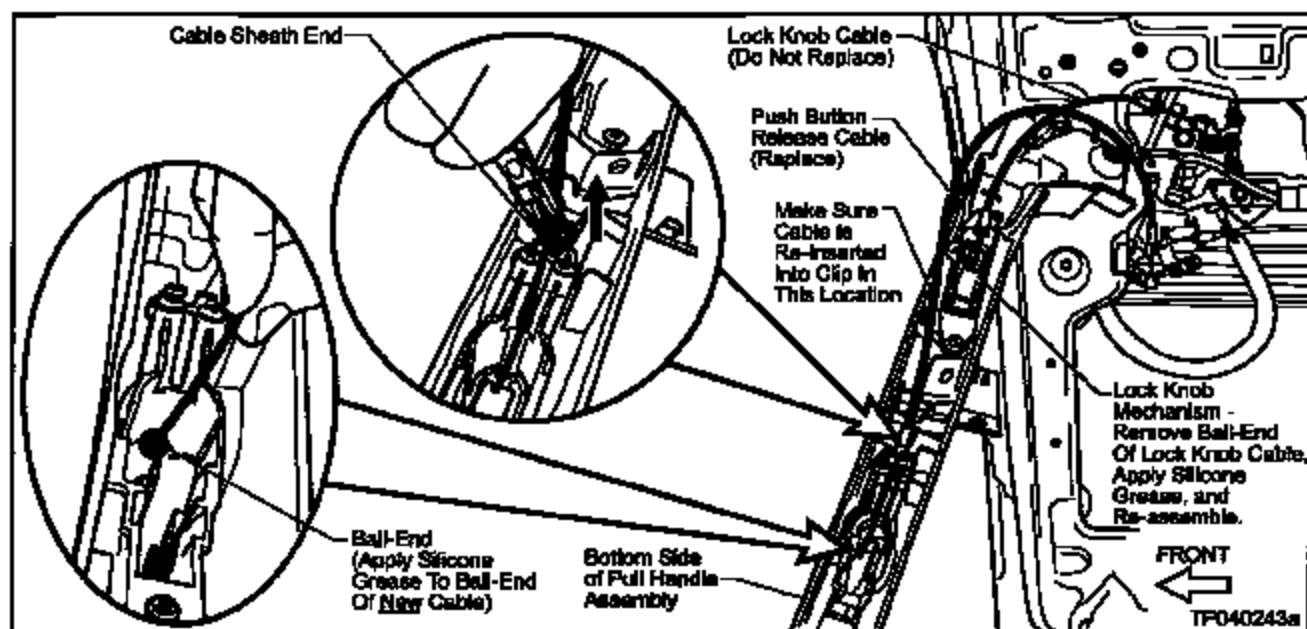

Figure J22
- Remove the Cable Sheath End from the Pull Handle Assembly using needle-nose pliers (see Figure J22).
- Remove the Ball-End of the Cable from the Push Button Assembly (see Figure J22).
- Make sure the Cable is re-inserted into the Clip next to the Lock Knob Mechanism (see Figure J22).
- Apply Silicone Grease to the Ball-End of the new cable (see Figure J22).
25. Remove the Ball-End of the Lock Knob Cable, apply Silicone Grease, and re-assemble (see Figure J22).